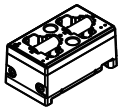

Fig. 33: 18500
1. Transmitter(s) can be inserted into single-docking or dual-docking battery chargers (Fig. 31 & 32) or 18500 rechargeable battery can be recharged in dual-docking battery charger. Fig. 33